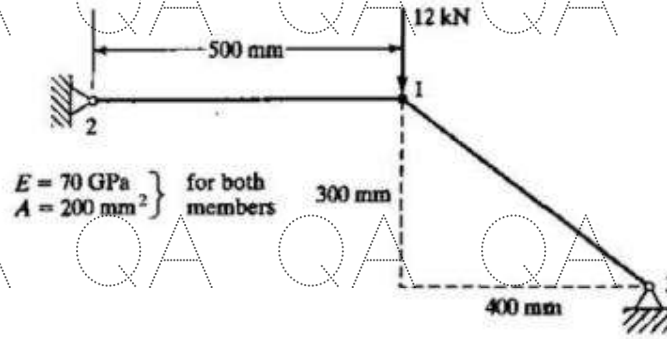

Figure 2
4. For the two-bar Truss shown in the figure 2. Determine: (a) Nodal displacements (b) Element stresses (c) Reaction forces. Take $E=200$ Gpa, $A=200$ mm². [3+3+4]